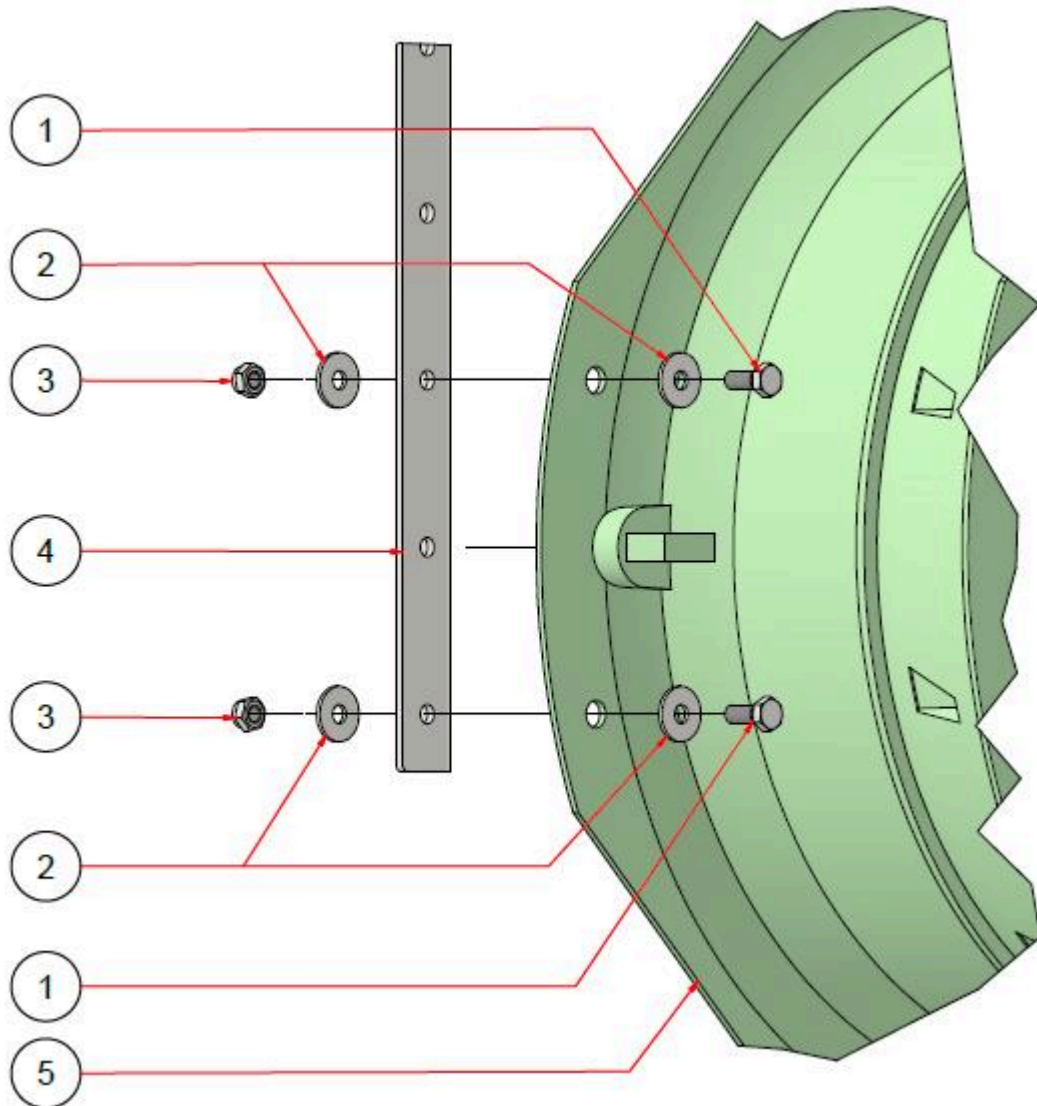

Figure 3 Mounting ZN045 and ZG045 fan
- Attach the fan (5) to the mounting brackets (4);
- Use four M8 x 20 bolts (1), eight M8 fender washers (2) and four M8 self-locking nuts (5);
- See Figure 3;